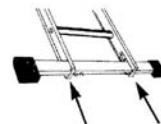

figure 2
2. Offer stabiliser up to slots in stile and align 4 holes. Fix in place with four M6 x 70mm bolts, four 6mm Ø metal washers and four M6 lock nuts (fig. 2) Do not overtighten. Replace plastic tips. (fig. 3)